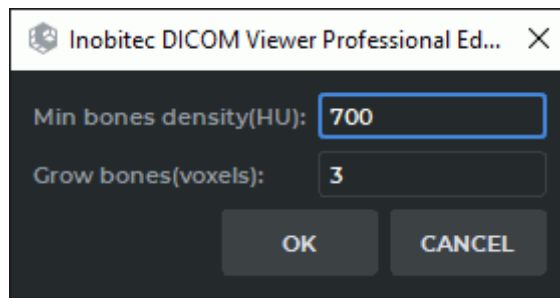

Figure 3.13: Configure bone remove parameters dialog box
2. Click the **Remove bones**  button on the toolbar. A dialog box (Fig. 3.13) will pop up.